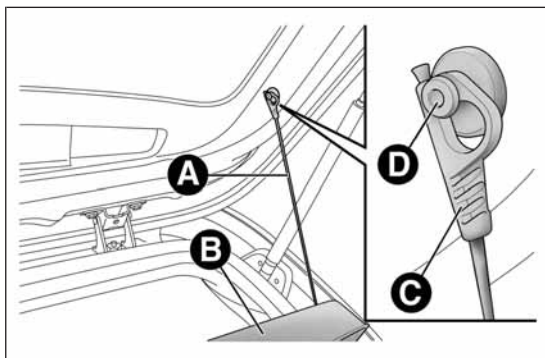

fig. 64
- ❑ free the ends of the two parcel shelf B mounting links A fig. 64 by removing the eyelets C from the mounting pins;